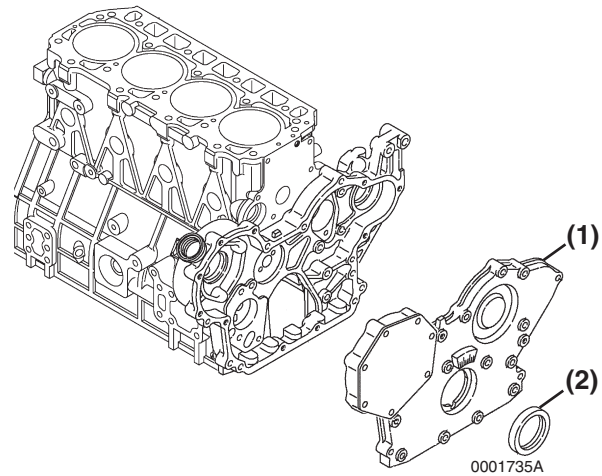

Figure 6-111
1. Remove the seal (**Figure 6-111, (2)**) from the cover (**Figure 6-111, (1)**).